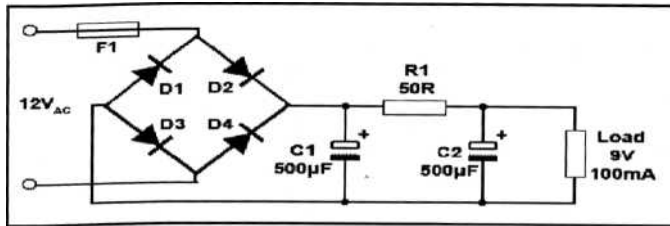

Figure 7.19
8. Refer to Figure 7-19 What is the power dissipated in R1?